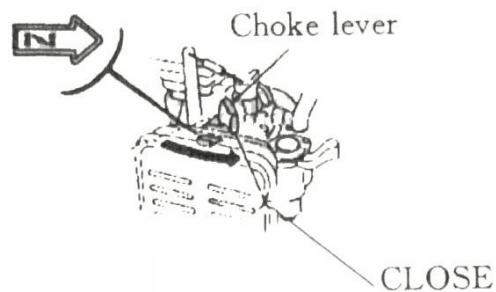

Fig. 6
2. Push the choke lever to the CLOSE position (Fig. 6).